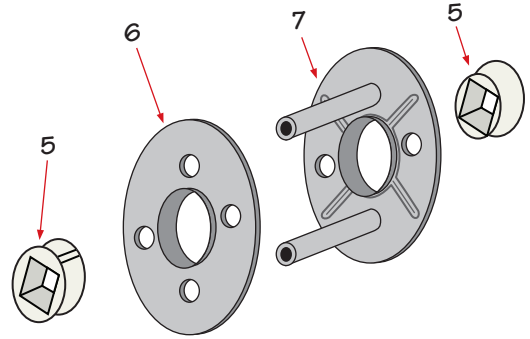

FIGURE 2
3. Insert nylon self-alignment plugs into both mounting brackets. (Figure 2)